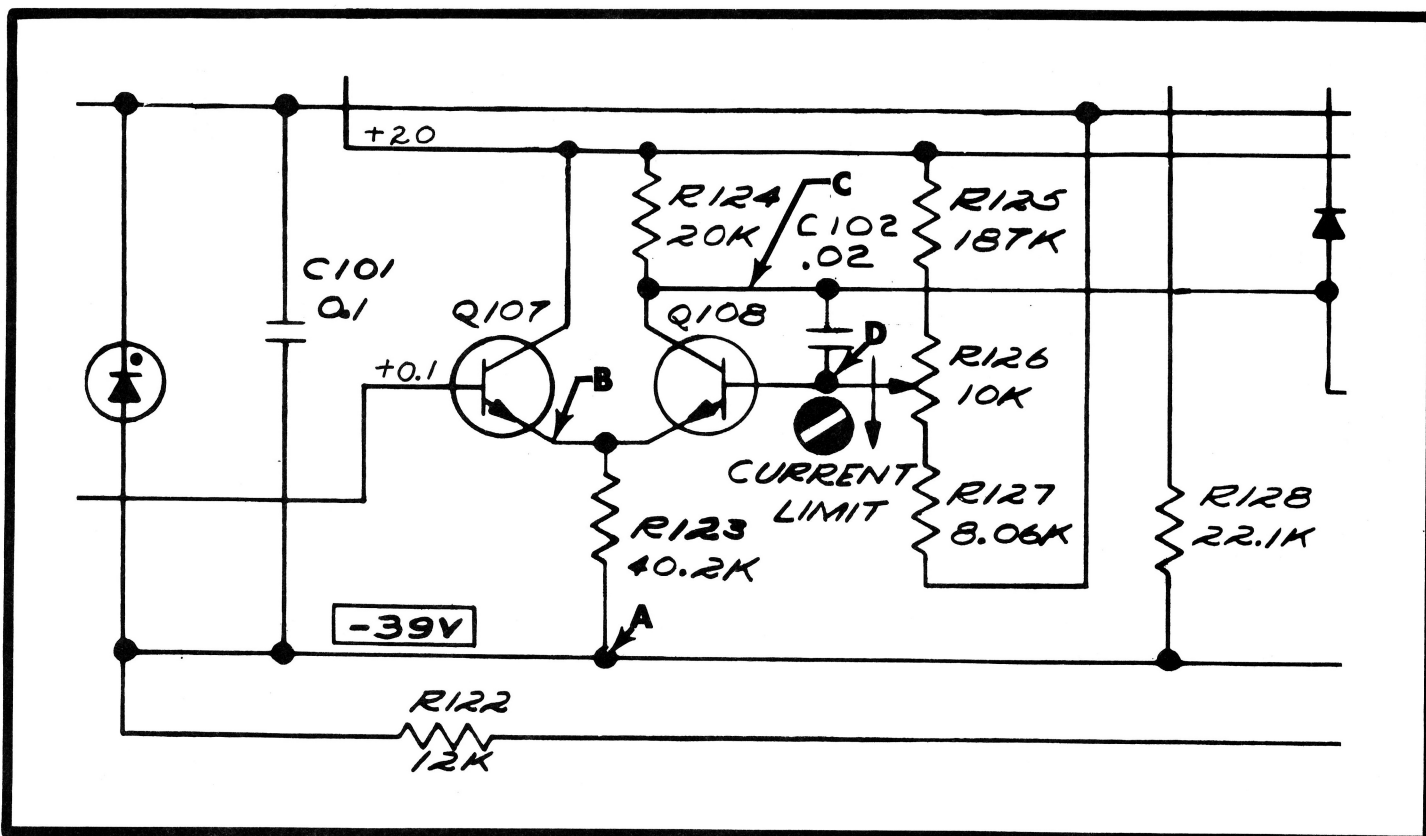

Figure 12. Voltage Points within Current Limit Circuit. Refer to Table 5 for values which depend upon the voltage at Point A.
TABLE 5. Current Limit Circuit Voltages. These values were measured with the Model 153 to  $\pm 15\%$ . The Voltage Dials are set to 000 and the OUTPUT Switch to -. The range from -36 to -44 volts is the limits of the voltages across the zener diode D106. The points B, C and D are indicated in Figure 12.
d. Voltages within the current limit amplifier vary considerably, depending upon the voltage across zener diode D106. Nominally, the voltage is -39 volts. Table 5 gives the correct values for points in Figure 12 for voltages within the limits of the zener if the instrument is working properly.